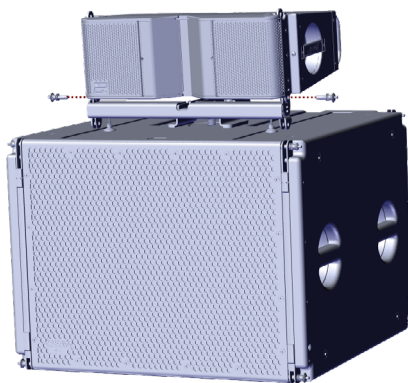

Figure 16
- Place module on frame and pinning both front locations with pins on the flybar (Figure 16).